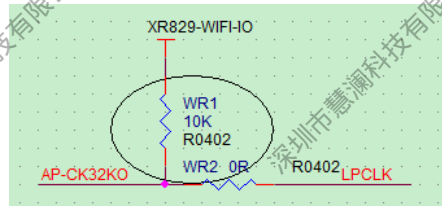

Figure 2-32 AP-CK32KO Pull-up Circuit
- The 32KFOUT of R818 is the output pin of the internal 32.768 kHz. When used in combination with the WiFi module, the external pull-up resistors must be added, and note that the pull-up power supply is VCCIO-WIFI. As shown in Figure 2-32.